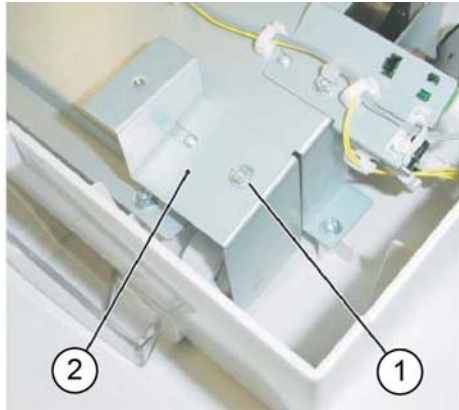

Figure 2 Front bracket removal
6. Remove the front bracket, Figure 2:
- a. Remove the screw (1).
- b. Remove the bracket (2).